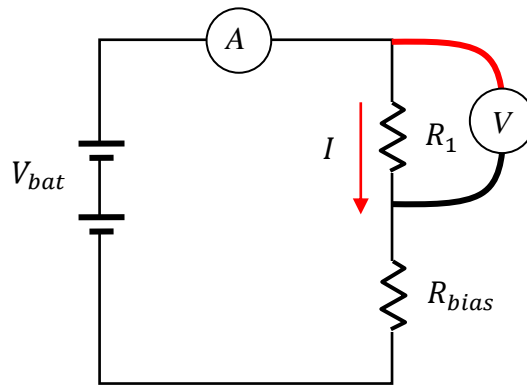

Figure 7. Voltmeter connected across R_1
- Put the other meter in the *voltmeter mode* and connect it *across* R_1 (i.e., in *parallel* with it), as shown in Fig. 7.